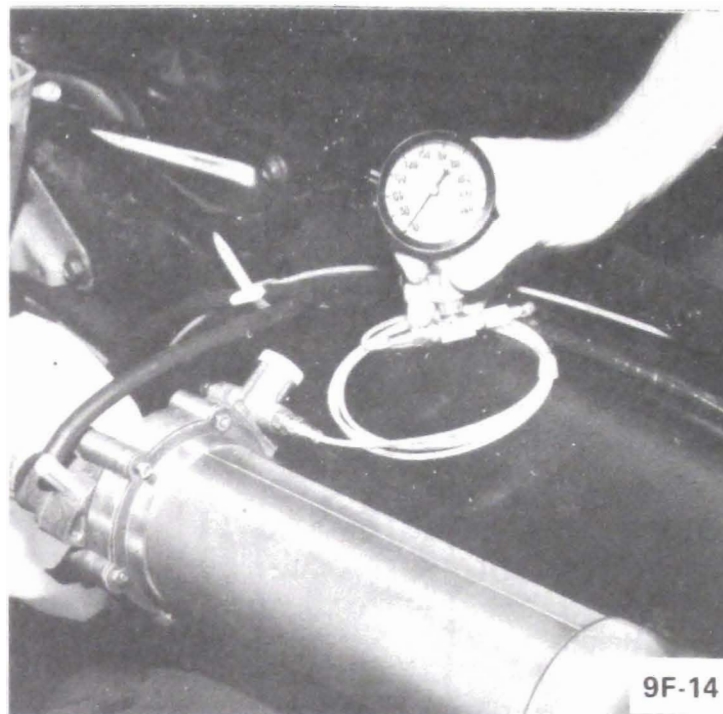

Figure 9F-15 - Test Gage Installed on Regulator Valve
nect line at pressure regulator valve. Install test gage on regulator valve high pressure fitting. See Figure 9F-15.
2. Inflate system through service valve to maximum available pressure. See Figure 9F-8. If available pressure is less than 140 psi, start engine to build-up reservoir to this pressure.